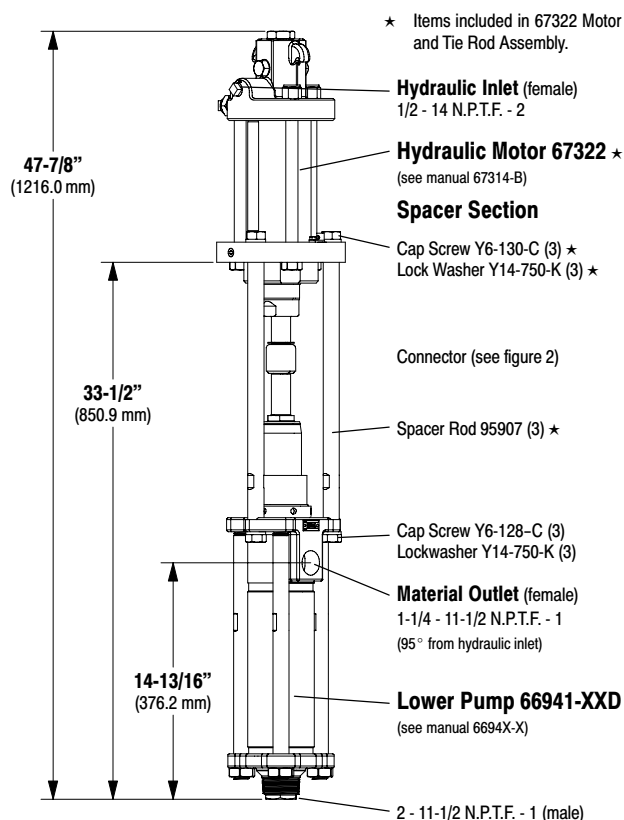

Figure 1
2. Remove the top three (Y6-130-C) cap screws and (Y14-750-K) lockwashers from the three spacer rods (figure 1).